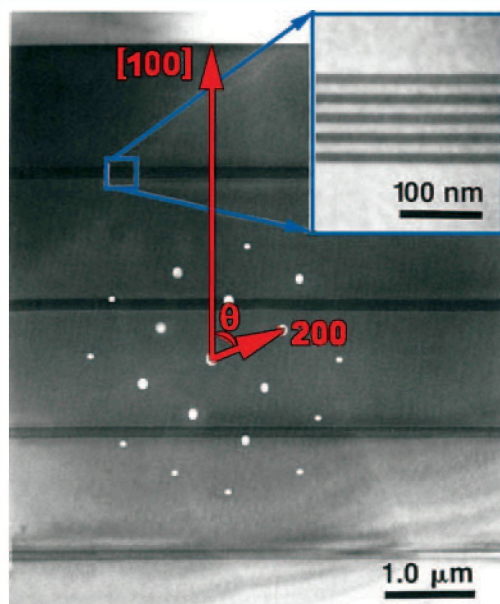

Fig. 5: Double exposure of the image and the electron diffraction pattern from a single crystal silicon region of the MAG\*I\*CAL sample.
necessary to take double exposures of the calibration sample image plus its diffraction pattern, at each magnification range and at each camera length for every accelerating voltage of interest. This is a lot of images! Fig. 5 shows an example of a double exposure of the MAG\*I\*CAL calibration sample. In Fig. 5, the [100] direction is 'up' in the image, but at an angle of about 67° to the (200) reflection (spot) shown on the diffraction pattern. It's important to read the instructions for these calibration samples, because symmetries can cause errors of 180° and/or other angles, depending on the sample. One technique that eliminates this ambiguity can be used with single crystal calibration samples that have distinct features, like the MAG\*I\*CAL or MoO3 (below). If a convergent beam pattern of the sample is obtained and the condenser is then underfocused (crossover below the sample), a shadow image of the sample will appear in the central (bright field) spot, and the orientation of the sample relative to the diffraction pattern can be recorded.